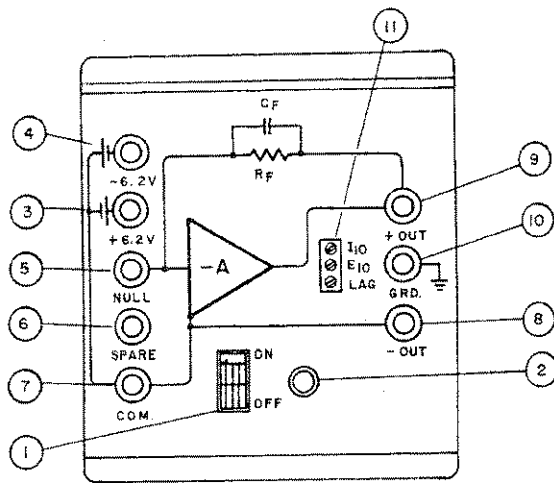

FIG. 2-2 CONTROLS AND TERMINATIONS, FRONT.
- a) FRONT PANEL: Refer to FIG. 2-2 and TABLE 2-2.